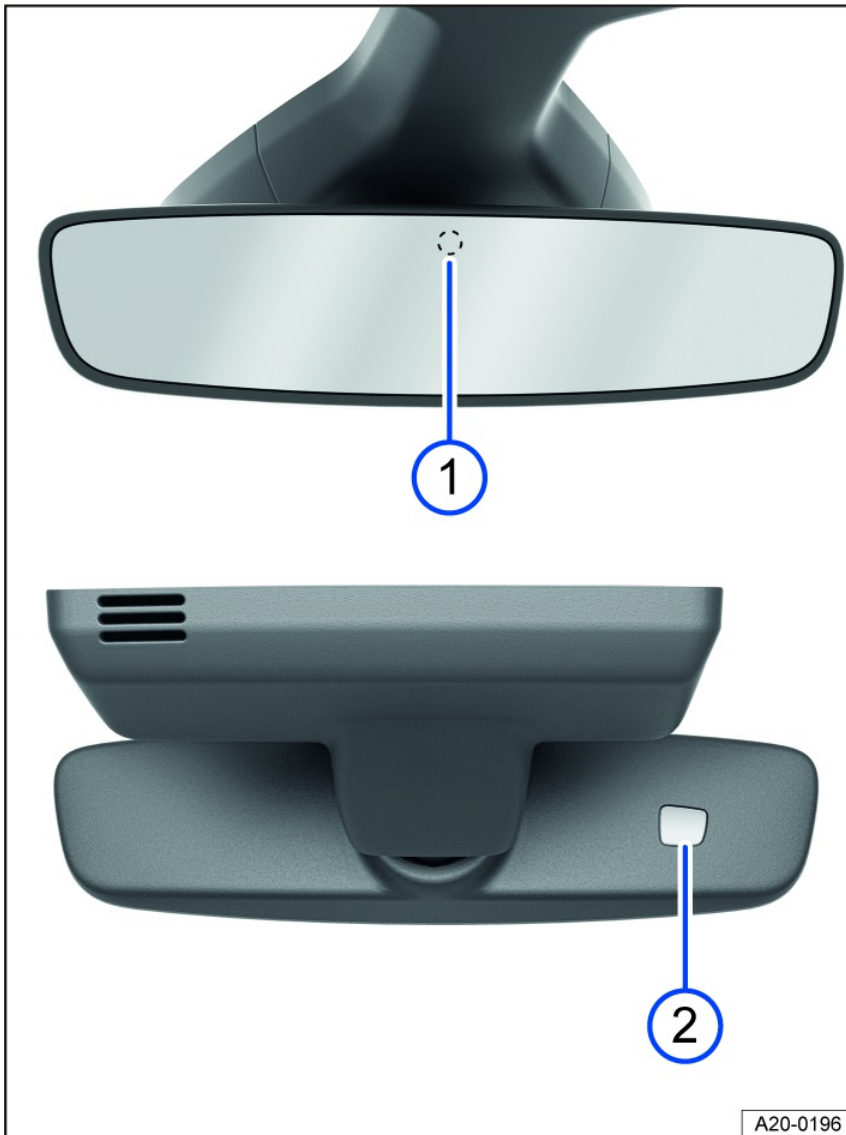

Fig. 86 On the windshield: automatic dimming interior rearview mirror.
When the ignition is on, the sensors measure the amount of light entering from the rear *fig. 86* ① and from the front ②.